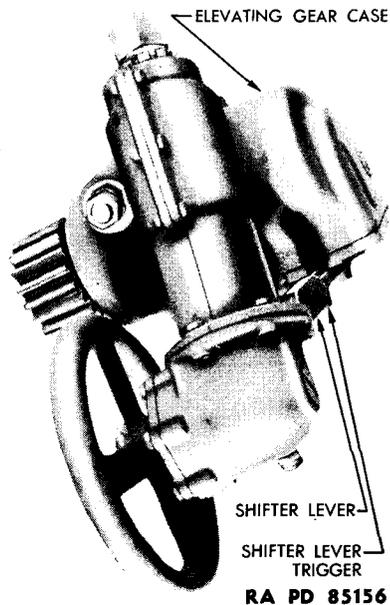

Figure 122 -- Elevating Mechanism Locking Device in Disengaged Position
(1) Grasp the elevating mechanism locking lever, located beneath the elevating gear housing, and compress the locking lever trigger.
(2) Swing the locking lever to the right (toward the turret body) and release the locking lever trigger (fig. 122).